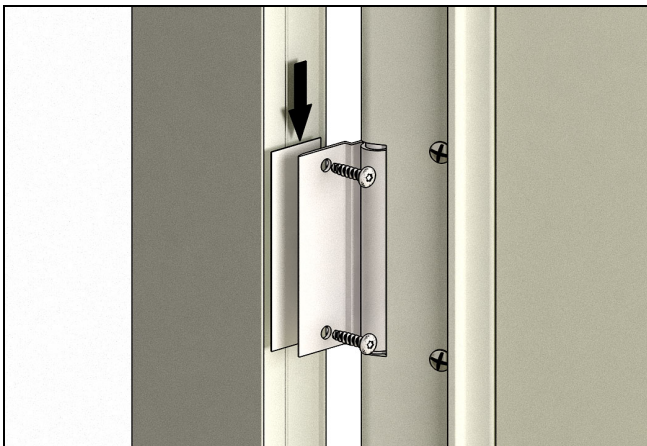

Figure 13
1. Close the inactive panel and engage the top and bottom flush bolts. If the inactive panel top flush bolt does not engage, the panel position can be adjusted by inserting the supplied hinge shims between the inactive panel and hinges. Open the inactive panel and depending on which direction the panel needs to move remove the hinge screws. Insert the necessary size and number of shims to ensure that the flush bolt engages the top z-bar and tighten screws. See Figure 13.